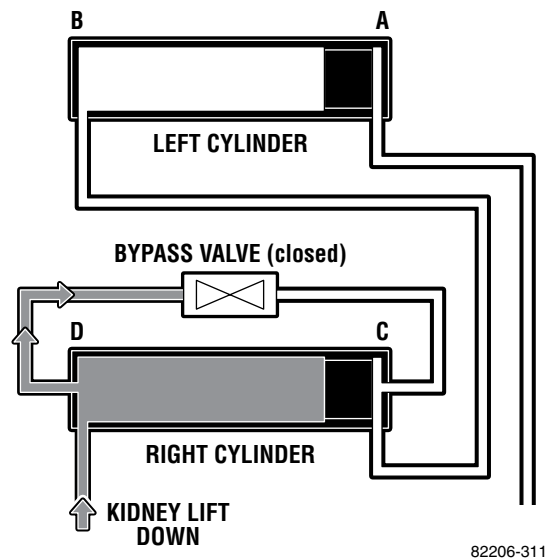

Figure 3-11.
1. Remove the kidney lift top section and begin the procedure with both pistons in the down position (chambers A & C) as shown in figure 3-11.
2. Make sure the bypass valve is closed (valve screw tight) and activate KIDNEY DOWN. The hydraulic fluid will fill cavity "D" as shown in figure 3-11.